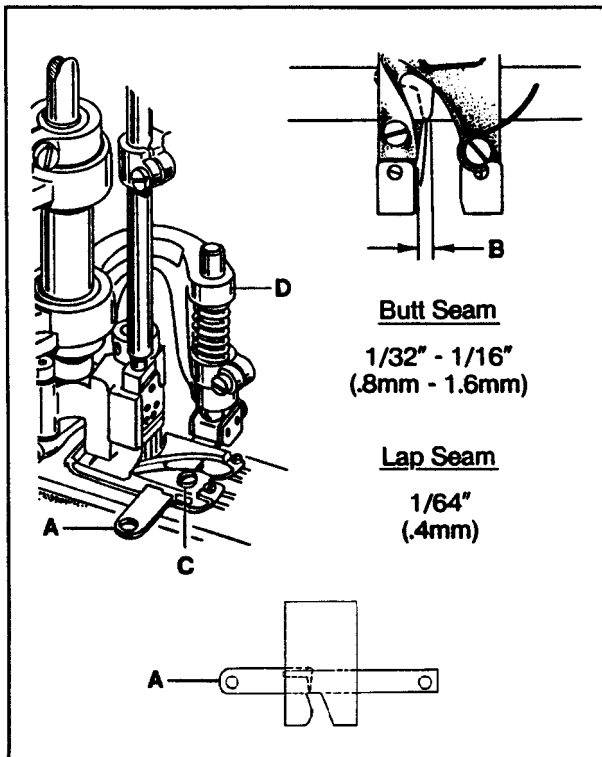

FIG. 29
To make the adjustments for a lap seam, position lower knife (A, Fig. 29) in the foot so it extends $\frac{1}{64}$ " (0.4mm) past the right side of the left toe (B) (approximately even with the first needle). Loosen screw (C) and move knife in or out as required. Tighten screw (C) securely.